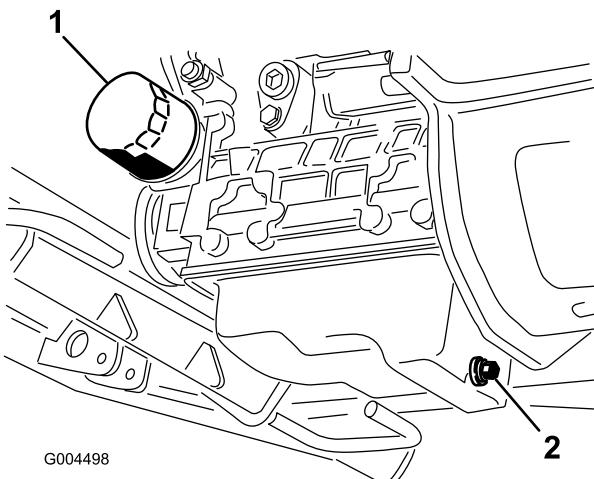

Figure 46
3. Set a drain pan under the oil pan and in line with the drain plug (Figure 46).
6. Remove and replace the oil filter (Figure 46).